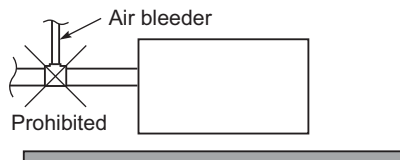

Fig. 1-117
- Do not install an air bleeder as this may cause water to spray from the drain pipe outlet. ( Fig. 1-117)